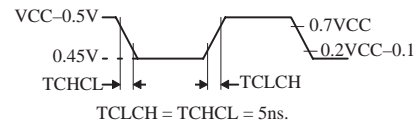

Figure 11 Clock Signal Waveform for ICC Tests in Active and Idle Modes
- Operating ICC is measured with all output pins disconnected; XTAL1 driven with TCLCH, TCHCL = 5 ns (see Figure 11), VIL = VSS + 0.5V, VIH = VCC - 0.5V; XTAL2 N.C.;  $\overline{\text{EA}}$  = RST = Port 0 = VCC. ICC would be slightly higher if a crystal oscillator used (see NO TAG).